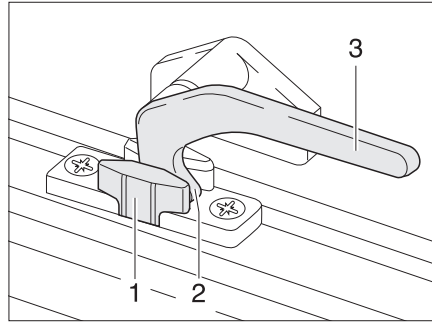
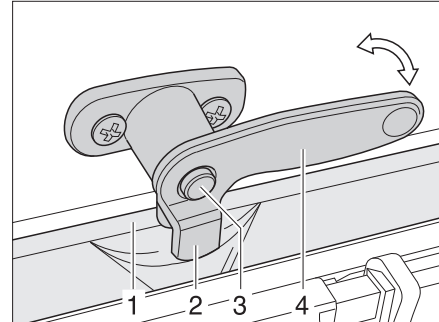

Fig. 73 Catch lever in the "Continuous ventilation" position
Fig. 74 Catch lever with safety knob in "Continuous ventilation" position
- "Continuous ventilation" (Fig. 73)
- If it exists, press the safety knob (Fig. 74,3) down and hold it.
- Turn the catch lever (Fig. 73,3 or Fig. 74,4) a quarter turn towards the centre of the window.
- Return the catch lever to its initial position. In the process the locking catch (Fig. 73,2 or Fig. 74,2) is retracted into the recess of the window catch (Fig. 73,1 or Fig. 74,1).